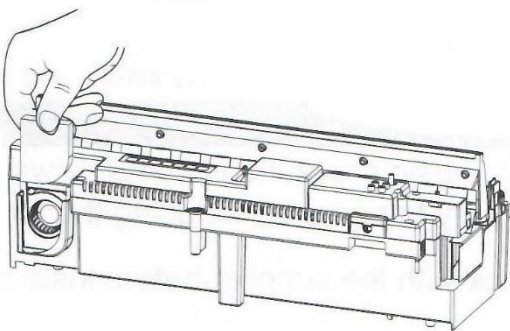

Fig 34
2. Gently slide the air filter upwards out of its plastic holder (Fig. 34).